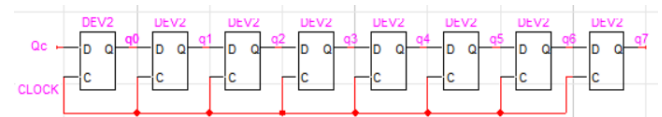

Figure 3. 8-bits shift register.
1. Create a counter, as pictured in Figure 3.